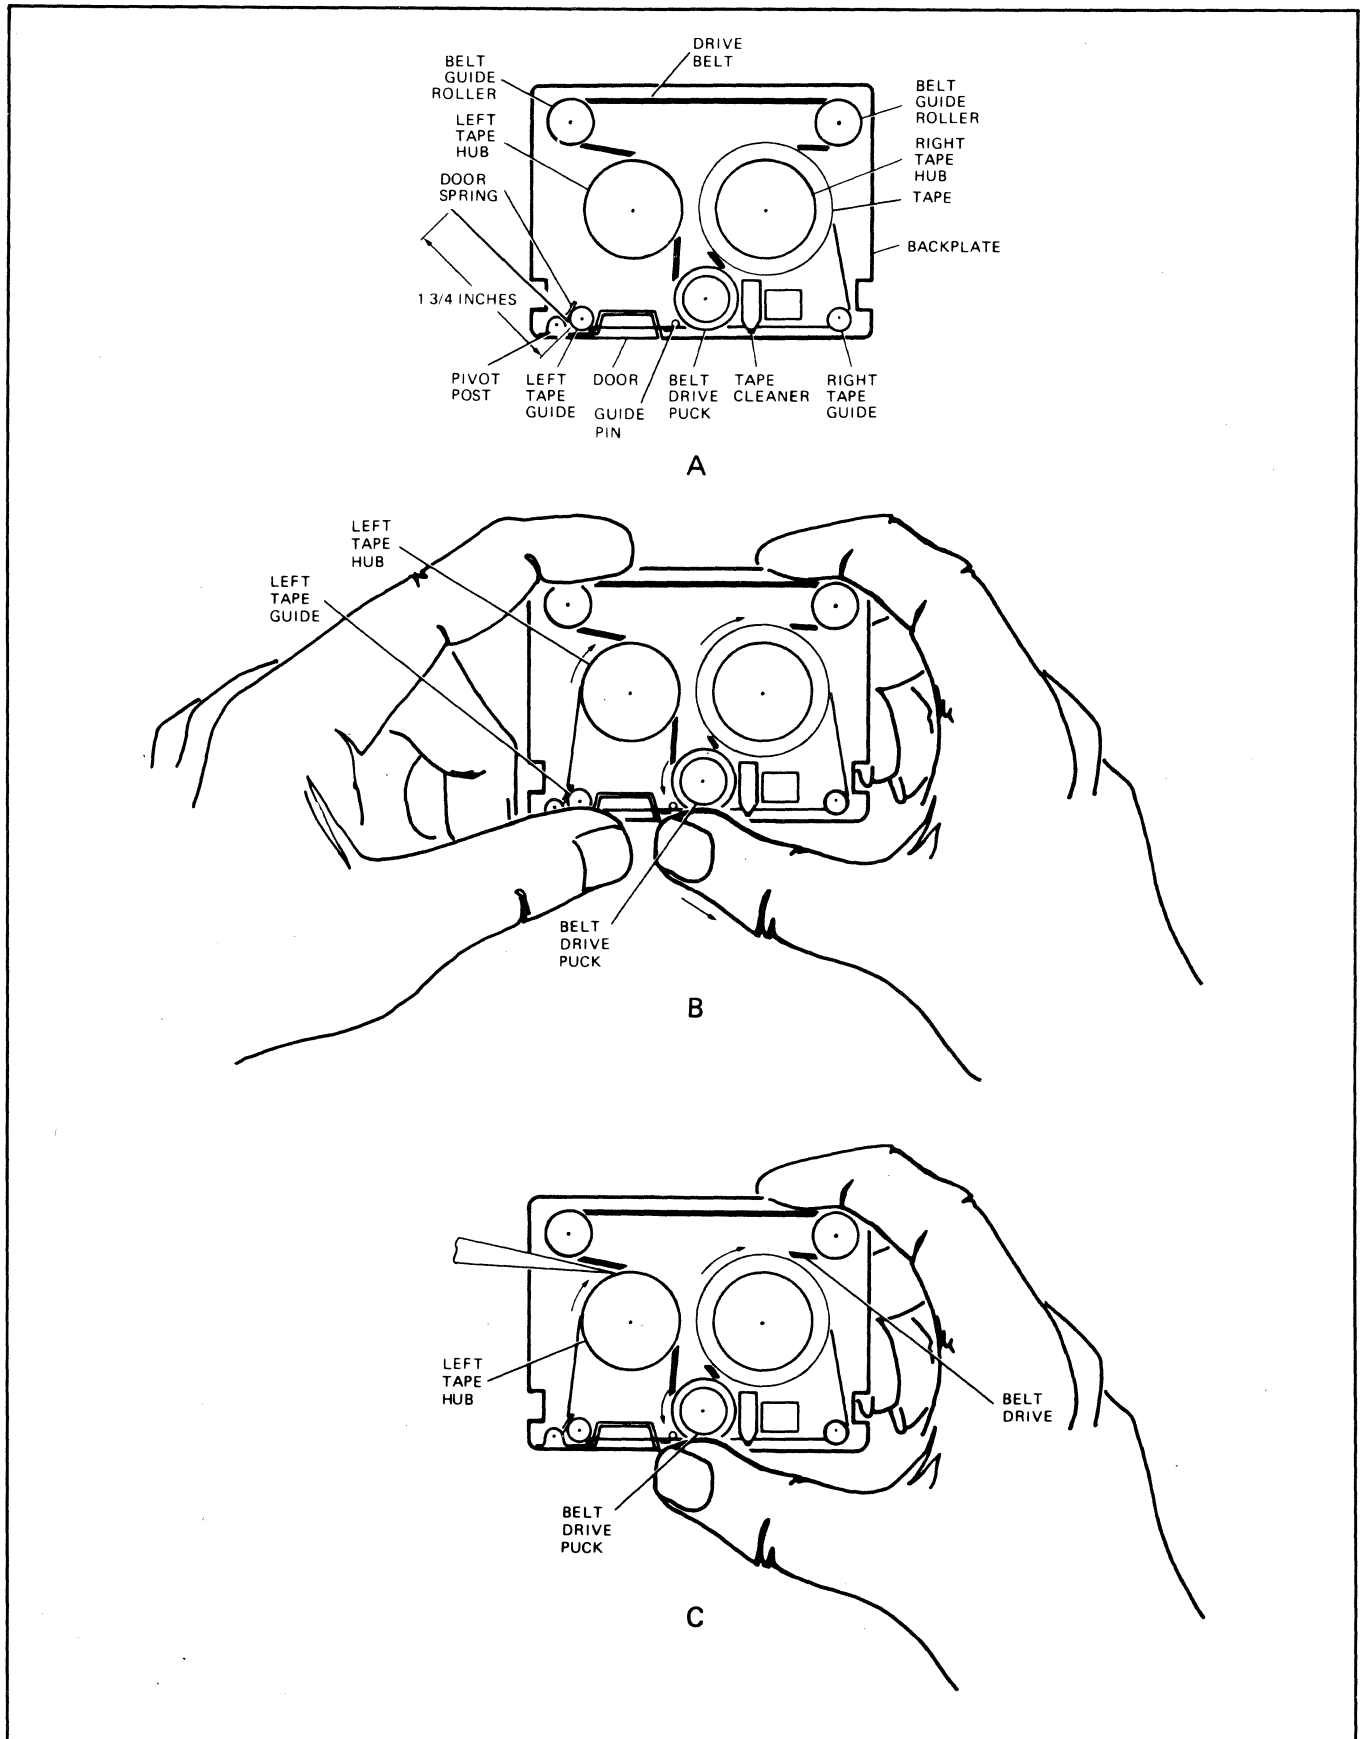

Figure 3-6. Tape Cartridge Rethreading
- b. As shown in figure 3-6, view A, rethread loose end of tape around right tape guide, through tape cleaner, past belt drive puck, outside guide pin, and around left tape guide so that approximately 1-3/4 inches of tape is clear of guide.
- c. Hold tape cartridge as shown in figure 3-6, view B, so that right hand can be used to rotate belt drive puck and left hand can be used to maintain tape tension at left tape guide.
- e. While maintaining tape tension, use any small round-tipped tool to trap free end of tape between drive belt and left tape hub as shown in figure 3-6, view C.